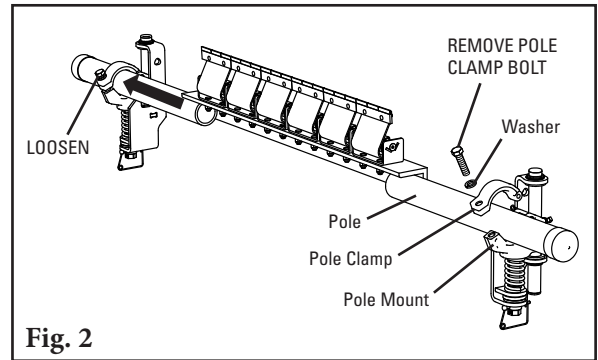

Fig. 2
- 2. Install the pole.** Remove pole clamp bolt and lift or remove top half of pole clamp from the tensioner on the near side of the conveyor, and loosen pole clamp bolt on the opposite side. Slide the pole across the conveyor and through the loosened pole clamp, then place the near end of pole in remaining pole clamp (Fig. 2). Replace top half of pole clamp, reinstall the bolt and tighten both bolts finger tight.